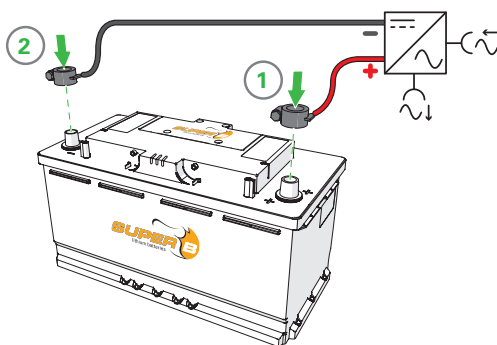

Figure 11. Connecting power cables with automotive type .
2. Connect the load or charger to the X2 (+) terminal of the Li-ion battery. (Figure 11)
3. Connect the load or charger to the X1 (-) terminal of the Li-ion battery. (Figure 11)